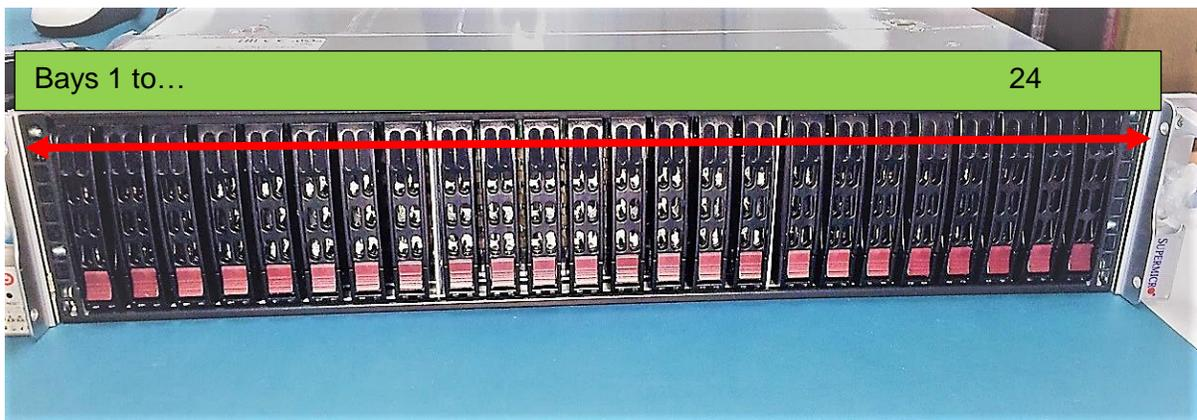

Figure 1.4: Bays 1 through 24.
4. install and secure the remaining hard drives in consecutive order from BAY 2 to BAY 24, as shown in Figure 1.4.